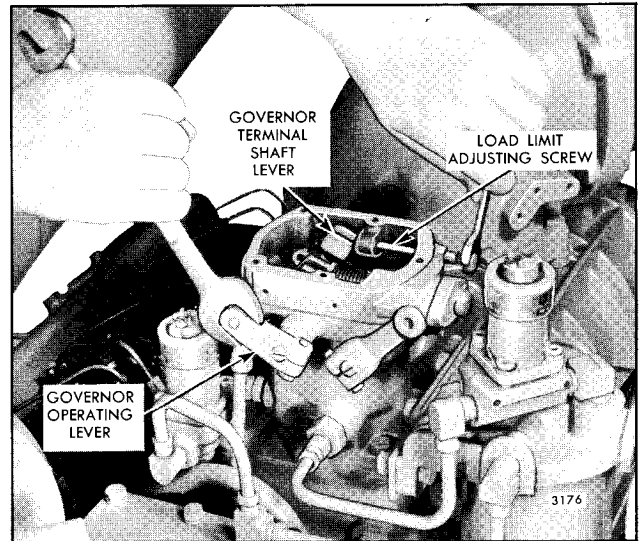

Fig. 7 - Adjusting Load Limit Screw
1. With the governor cover off and the load limit screw lock nut loosened, place and retain the governor operating lever in the full-fuel position as shown in Fig. 7.